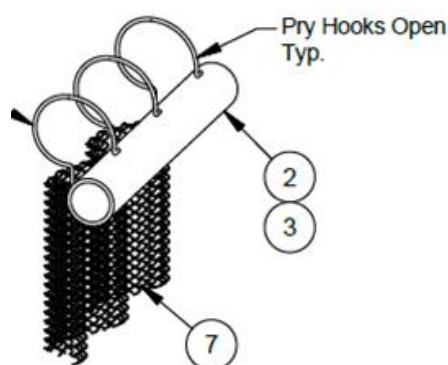
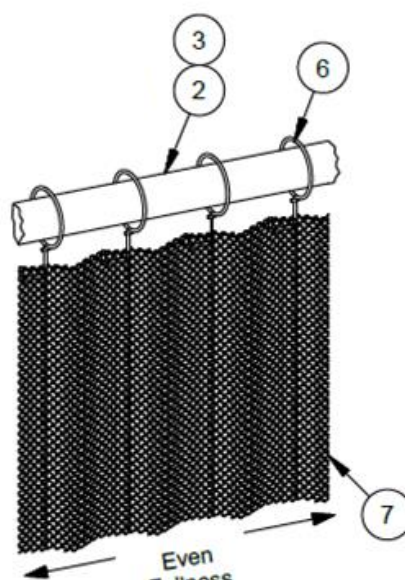

Figure 5a
Figure 5b
Step 1: Unsnap all the Safety Hooks (6).
Step 2: Pry the Hooks (6) open wide enough to fit over the Support Pipe Assembly (1) and force them on. (Fig. 5a)
Step 3: Re-snap all the Safety Hooks (6).
Step 4: Adjust the Mesh Curtain (7) fullness evenly across the opening. (Fig. 5b)